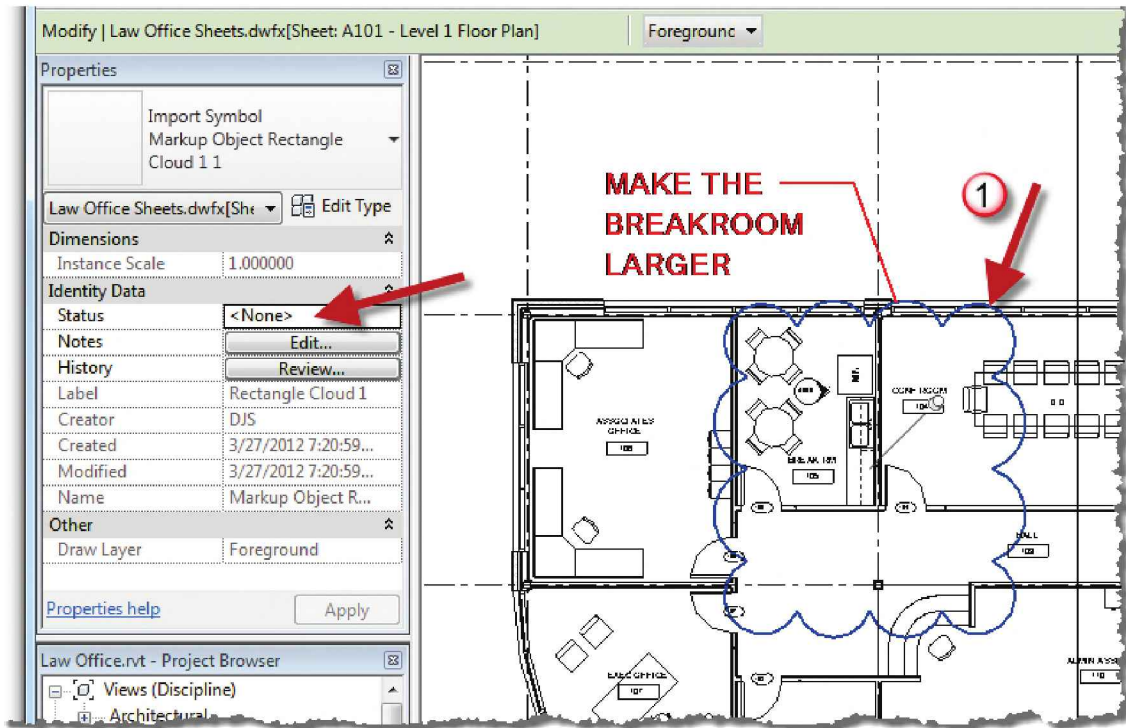

FIGURE 16-3.8 Markup overlay – revision cloud selected with properties shown
Notice the markups added in *Design Review* are now in your Revit model (Figure 16-3.8).
27. Select the *Revision* cloud in the sheet view (Figure 16-3.8).